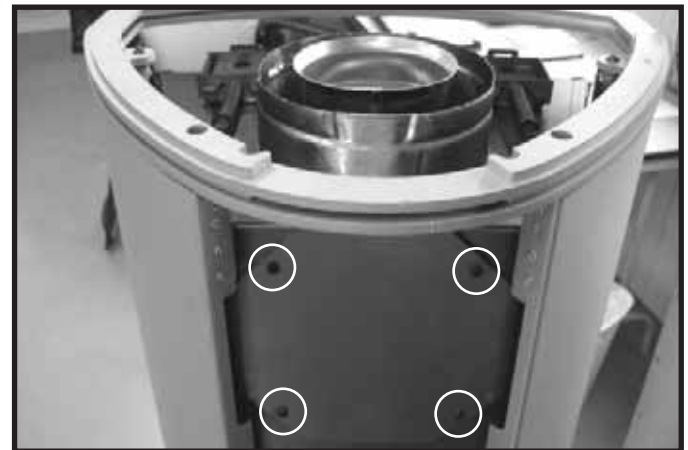

Figure 8.10
6. Remove the four screws from the cover plate on rear of appliance. Retain cover plate, gasket and screws. (see Figure 8.10).